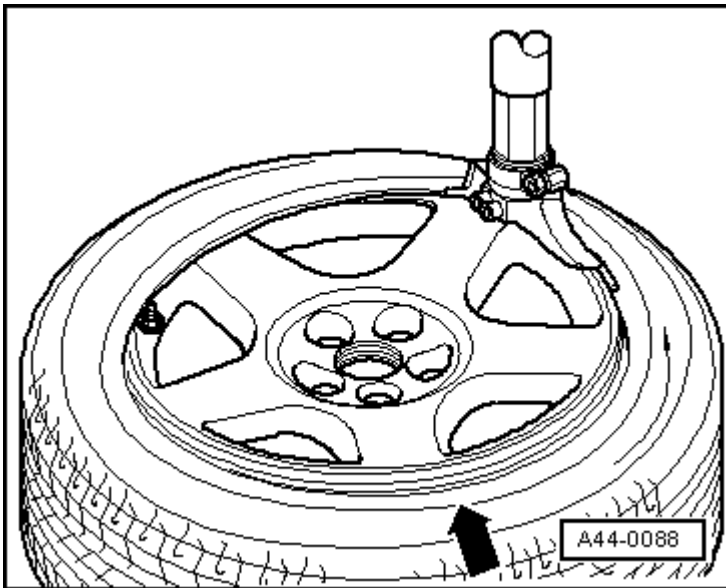

Fig. 59: Mounting Tire
-- Install tires, refer to **Fig. 59**.